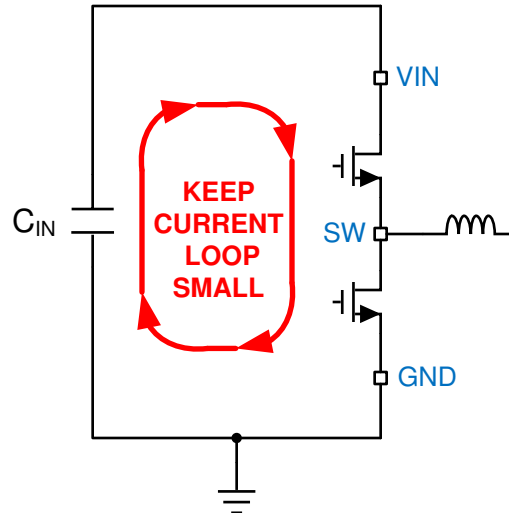
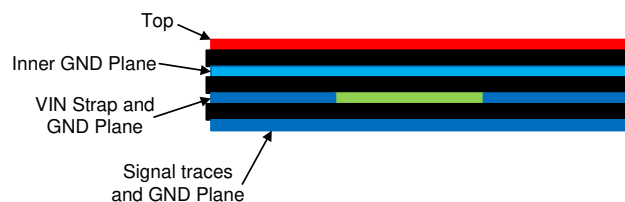

图 11-1. Current Loops with Fast Edges
图 11-2. Example Layout for VQFN Package
The PCB layout of any DC/DC converter is critical to the optimal performance of the design. Bad PCB layout can disrupt the operation of an otherwise good schematic design. Even if the converter regulates correctly, bad PCB layout can mean the difference between a robust design and one that cannot be mass produced. Furthermore, the EMI performance of the regulator is dependent on the PCB layout, to a great extent. In a buck converter, the most critical PCB feature is the loop formed by the input capacitor or input capacitors, and power ground, as shown in 图 11-1. This loop carries large transient currents that can cause large transient voltages when reacting with the trace inductance. These unwanted transient voltages will disrupt the proper operation of the converter. Because of this, the traces in this loop must be wide and short, and the loop area as small as possible to reduce the parasitic inductance. 图 11-2 shows a recommended layout for the critical components of the LMR336x0AP-Q1.
1. **Place the input capacitor or capacitors as close as possible to the VIN and GND terminals.** The VIN and GND pins are adjacent, simplifying the input capacitor placement. With the VQFN package there are two VIN/PGND pairs on either side of the package. This provides for a symmetrical layout and helps minimize switching noise and EMI generation. A wide VIN plane must be used on a lower layer to connect both of the VIN pairs together to the input supply; see 图 11-2.